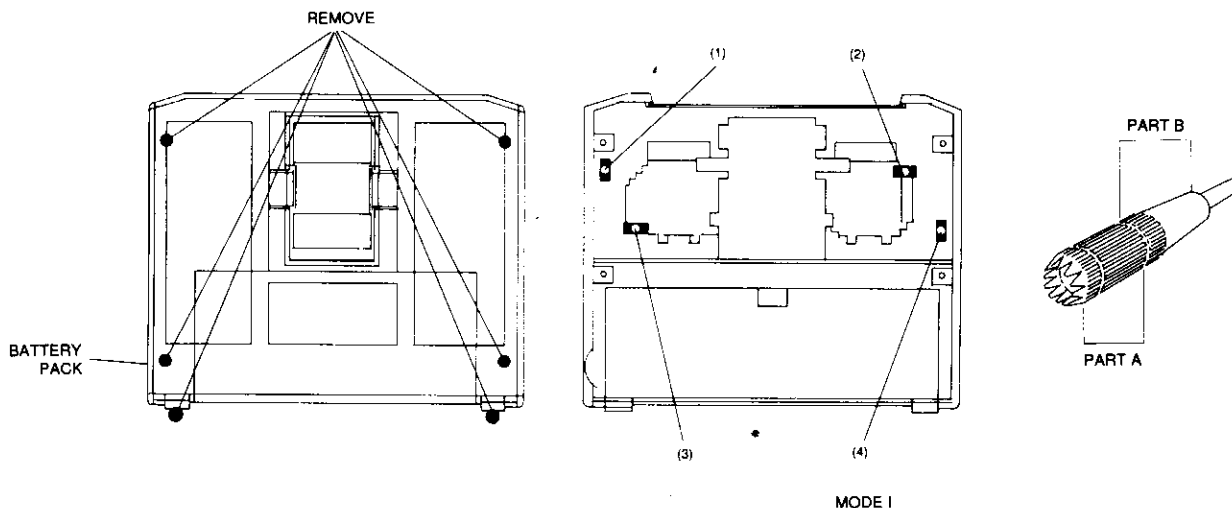

FIGURE 9
To adjust the spring tension, first remove the frequency module and battery pack as described. Then, remove the six rear cover screws as indicated on the sketch below (Figure 9). Carefully pry out the side pieces slightly to allow the rear cover to clear the Stop Watch and Snap Roll Select controls. The rear cover can now be lifted off. Three of the four screws indicated on the right hand sketch of a Mode II transmitter will now be visible. They control stick tension as follows: (1) Elevator Mode II; (2) Rudder; (3) Aileron; (4) Elevator Mode I. Adjust the screw "in" for more tension. Do Not touch or move any other component!